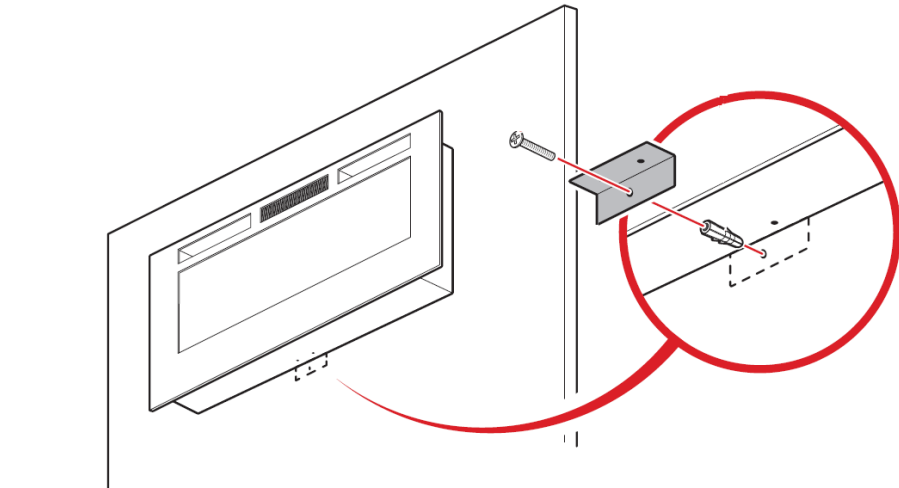

Fig.7
- Insert a wall anchor and attach bottom bracket with 4*30mm screws.Fig.7